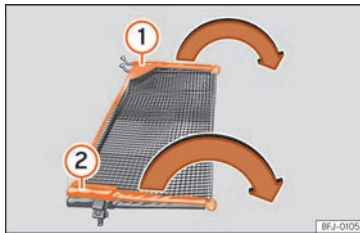

Fig. 131 Deploying the net partition.
Extend the cross rods »» **Fig. 131** ① and ② of the net in the direction of the arrows until it "clicks".